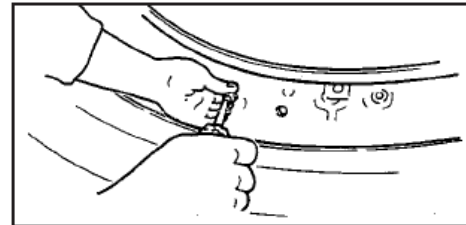

Figure 1
4. Remove the valve core; deflate the tires completely. (See fig. 1)